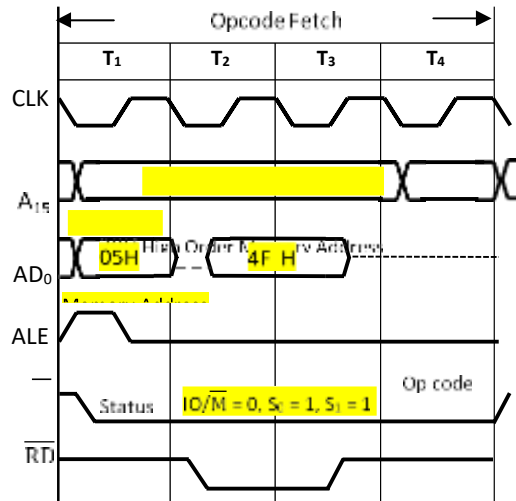

Figure 1.4.2 Timing Diagram: Transfer of Byte from Memory to Microprocessor
- Figure 1.4.2 shows the timing diagram of how a data byte is transferred from memory to the microprocessor from which the need for demultiplexing the bus AD₀-AD₇ becomes easier to understand.
- Figure. 1.4.2 shows a schematic that uses a latch and the ALE signal to demultiplex the bus. The bus AD₇-AD₀ is connected as input to latch 74LS373.
- The ALE signal is connected to Enable (G) pin of the Latch, and the Output control (OC) signal of the latch is grounded.
- Figure 1.4.2 shows that the ALE goes high during T₁. When the ALE is high, the latch is transparent; that means output changes according to the input data.